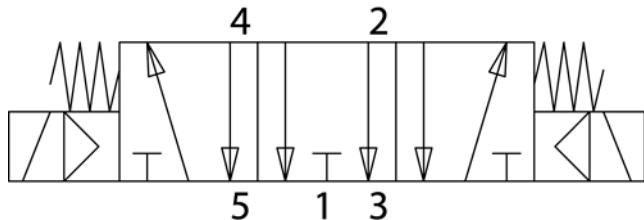
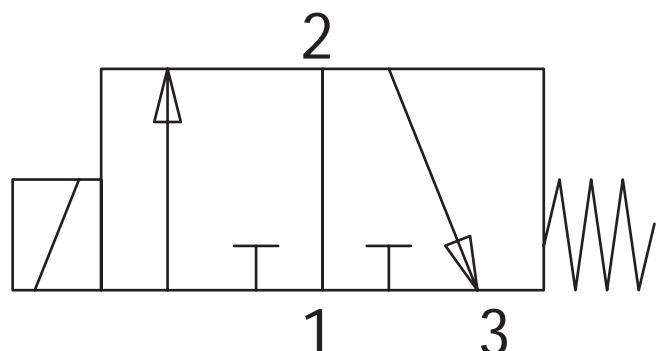
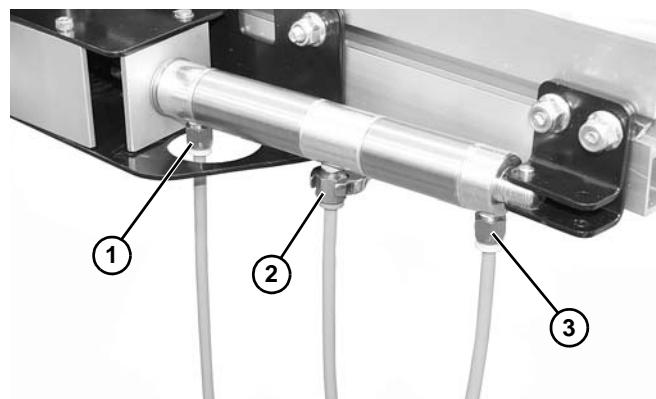

Figure 40
Figure 41
Figure 42
Dorner recommends using a 5 port, 3 way, exhaust center (**Figure 40**) and 3 port, 2 way solenoid valve (**Figure 41**) to operate divert and merge.
1. Connect Port 4 (**Figure 40**) of the 5 port, 3 way solenoid to the cylinder front port (**Figure 42**, item 1). Dorner fittings accept 1/4" Outside Diameter tubing.
2. Connect Port 2 (**Figure 40**) of the 5 port, 3 way solenoid to the cylinders middle port (**Figure 42**, item 2). Dorner fittings accept 1/4" Outside Diameter tubing.
3. Connect the 3 port, 2 way solenoid (**Figure 41**) to the cylinders back port (**Figure 42**, item 3). Dorner fittings accept 1/4" Outside Diameter tubing.